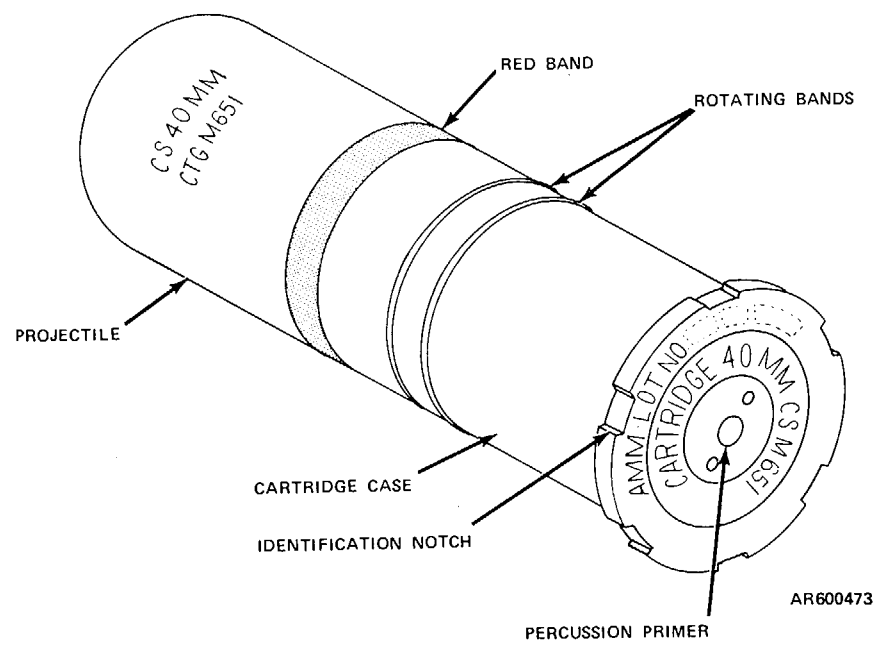

Figure 1-1. M651 cartridge exterior view.
a. *Cartridge.* The M651 cartridge (fig. 1-1) is similar in appearance to other 40-mm cartridges but has a flat nose. Two ridges act as projectile rotating bands when the round is fired. The cartridge case contains a percussion primer and has six equally spaced notches located around the cartridge case base.
b. Wait 30 seconds, open the breech to recock the weapon, and examine the percussion primer (fig. 1-1) to see if it has been dented. If the percussion primer has not been dented, the firing mechanism of the weapon may be at fault. The round may be reloaded and fired after the cause of failure to fire has been corrected.
a. *Cartridge.* The base of each cartridge case is marked with the nomenclature and ammunition lot number as shown in figure 1-1. The 1/4-inch wide red band on the gray projectile indicates that the CS filling is a nonpersistent-effect irritant agent. The cartridge nomenclature is also marked in red on the projectile.